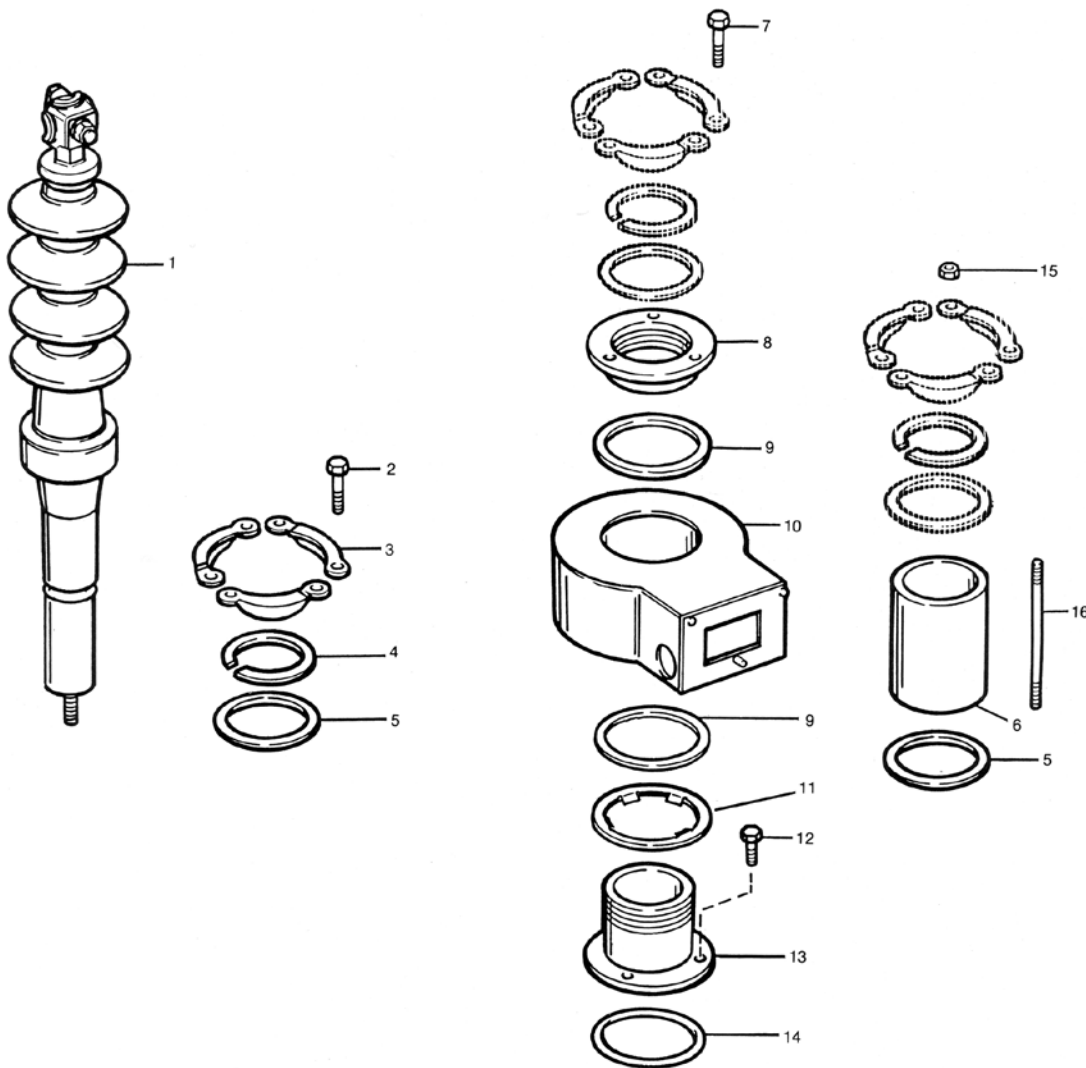

Figure 28. Bushing parts group
**Bushing parts group (Figure 28)**